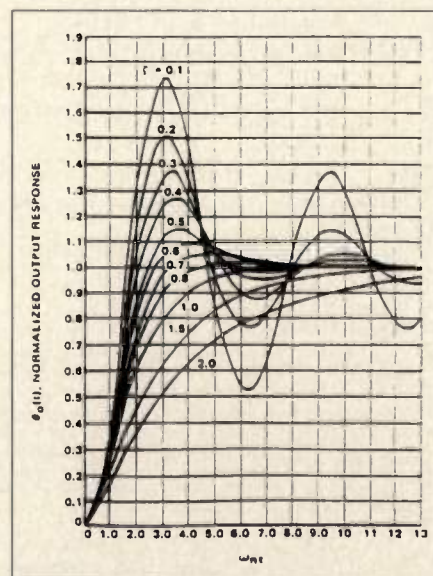

Figure 2a. Type 2 second order response.
The fundamental loop characteristics, such as capture range, loop bandwidth, lock-up time and transient response are controlled externally by loop filtering. The loop filter may take the form of a simple low pass filter or a lag-lead filter which creates an additional pole at origin in the loop transfer function. This additional pole along with that of the CCO provides two pure integrators ($1/s^2$). With two poles at the origin, a type 2 second order response yields a zero phase error to a step input of phase or frequency. The natural frequency, ω_n , and damping factor, δ , are important in the transient response to a step input of phase or frequency. For a given δ and lock time, ω_n can be determined from the output response of a type 2 second order system shown in Figure 2a (2).